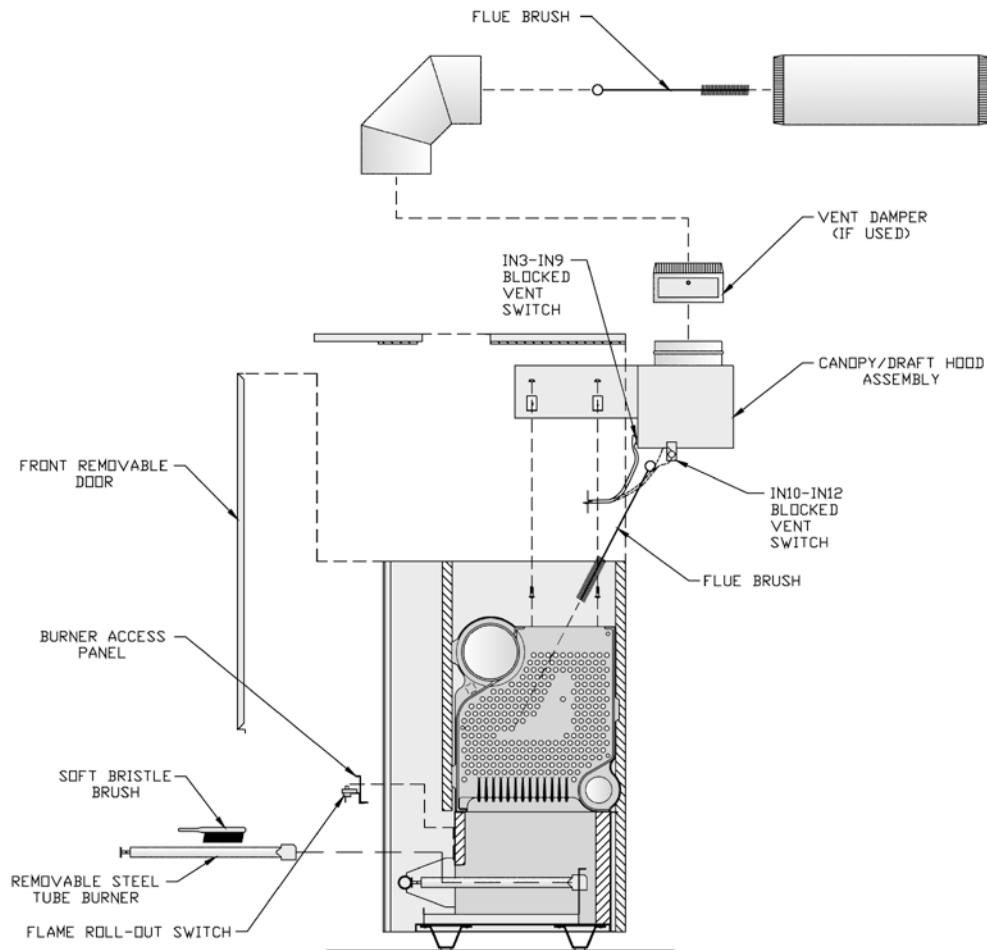

Figure 58: Boiler Flueway Cleaning
- 5. Thoroughly clean the flueways with flue brush. See Figure 58.
9. Check burners to be sure they do not contain foreign matter or restrictions. Clean burners with a soft bristle brush, blow any dirt out with compressed air or use a vacuum cleaner. See Figure 58.